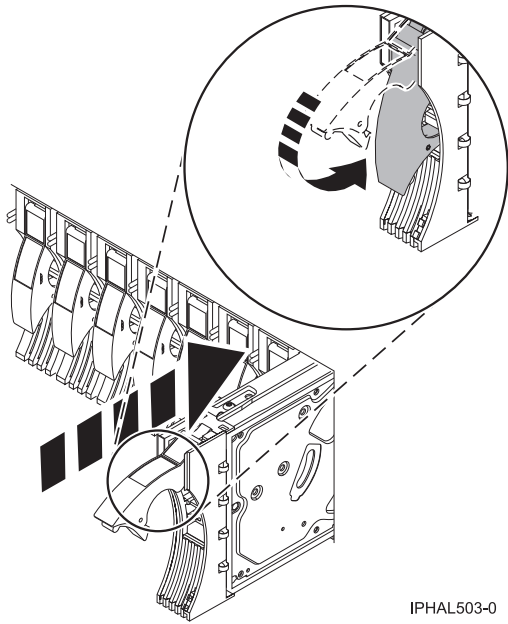

Figure 96. Installing a disk drive in a model
7. Push the disk drive handle in until it locks, as shown in Figure 96 on page 118.